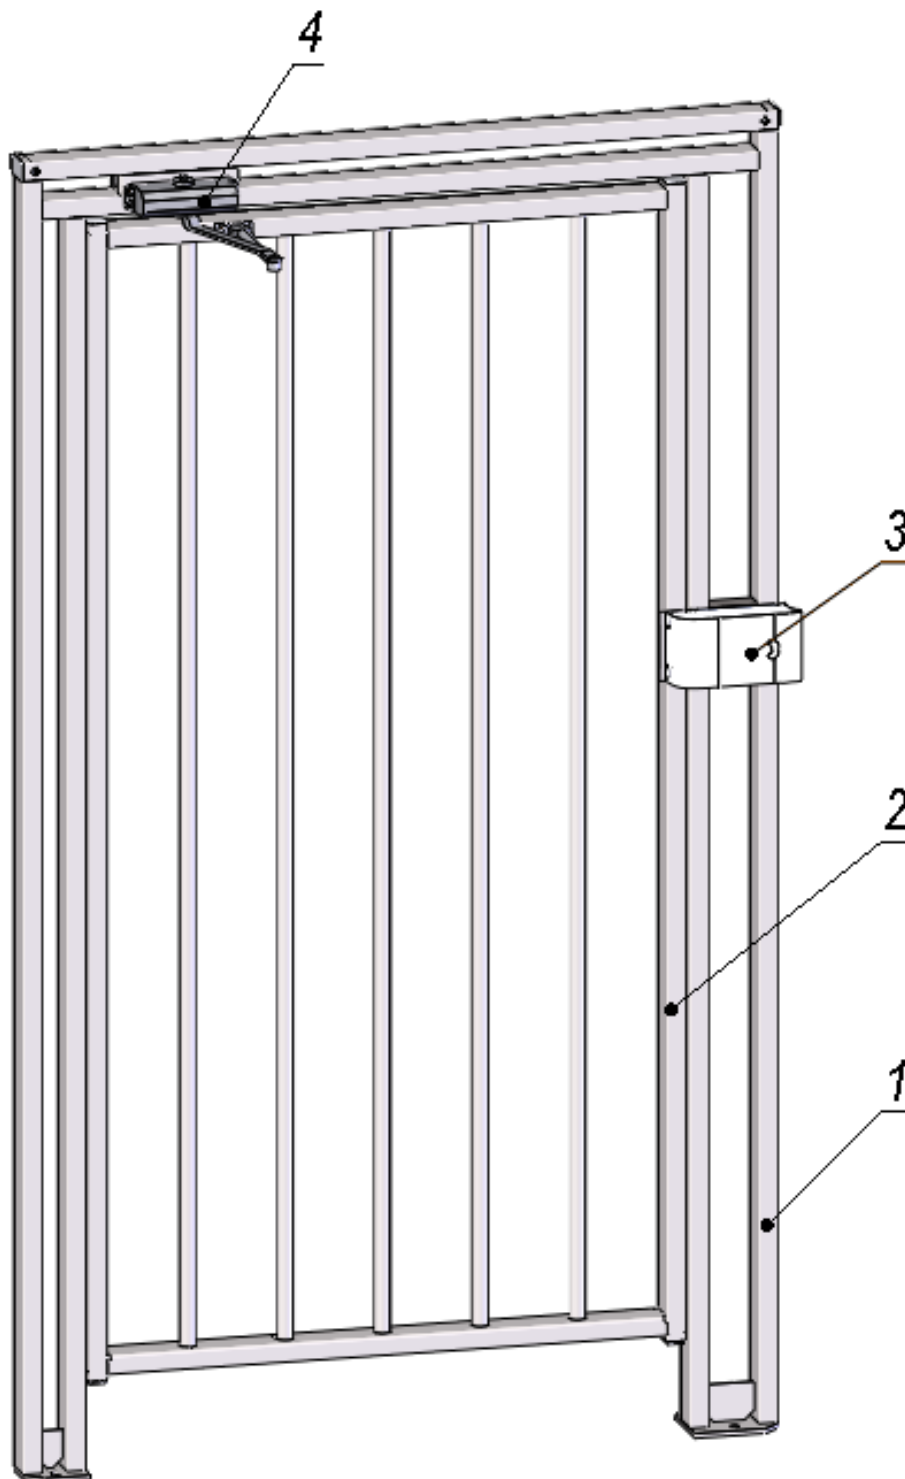
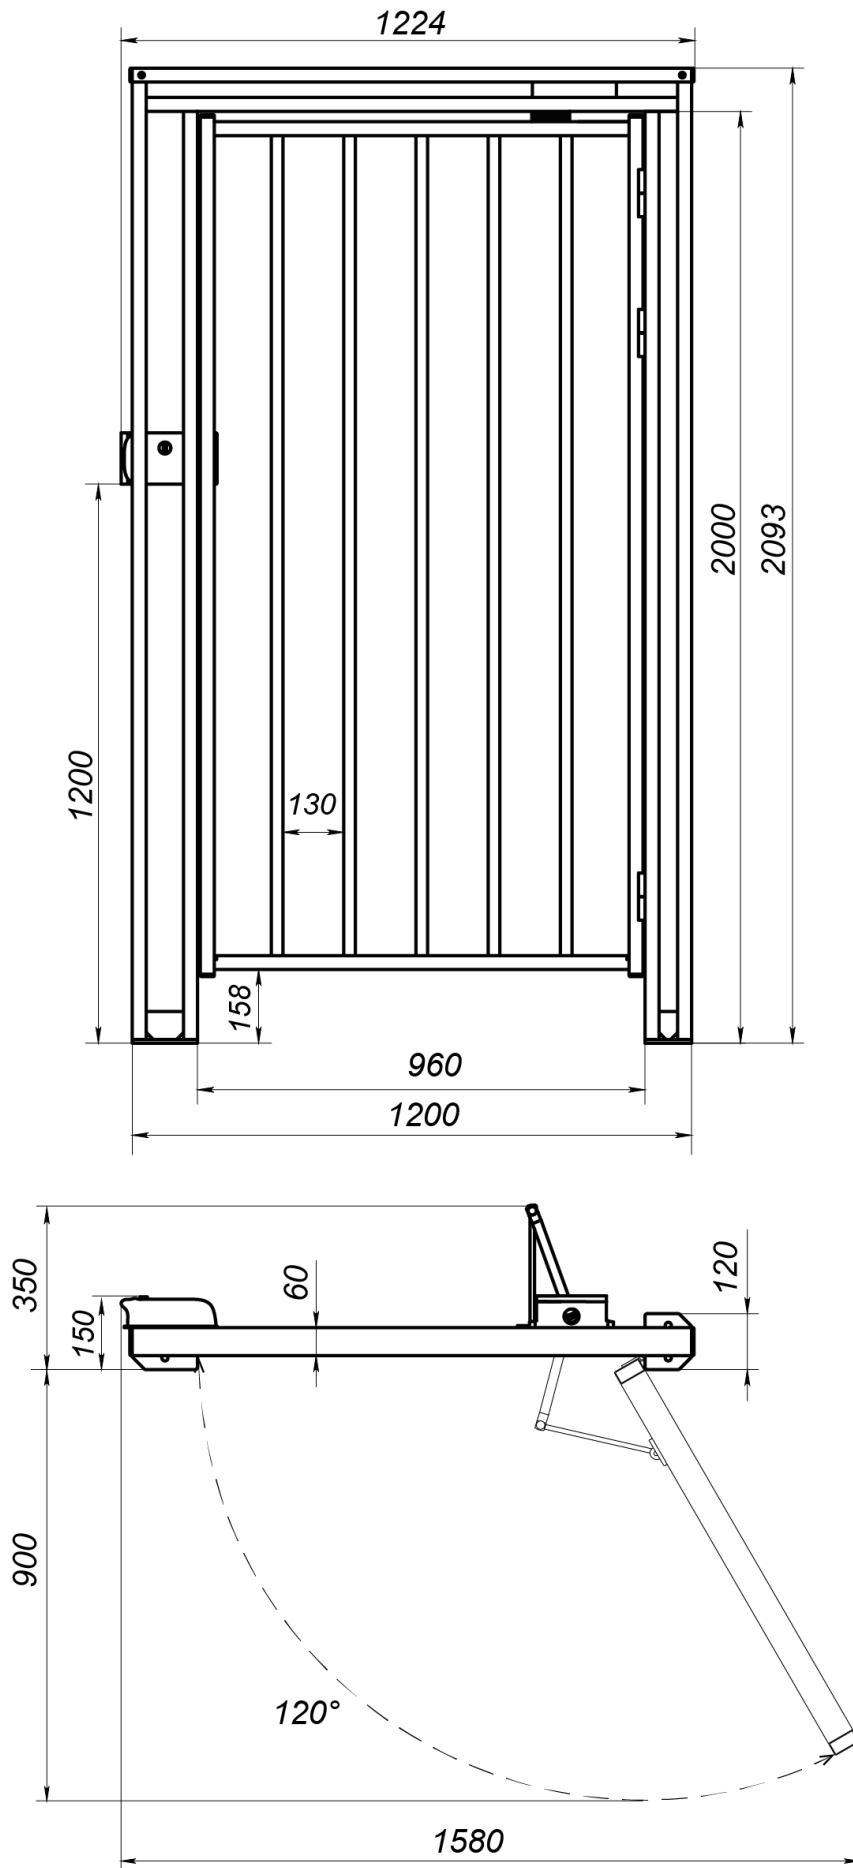

Figure 1. General view of the WHD-16 gate
Figure 2. Overall dimensions of the WHD-16 gate
The gate design is shown in Fig. 1. Overall dimensions of the gate are given in Fig. 2. Unless noted otherwise, the position numbers in the Manual agree with Fig. 1. The gate consists of: frame (1), leaf (2), electromechanical lock (3), door closer (4).